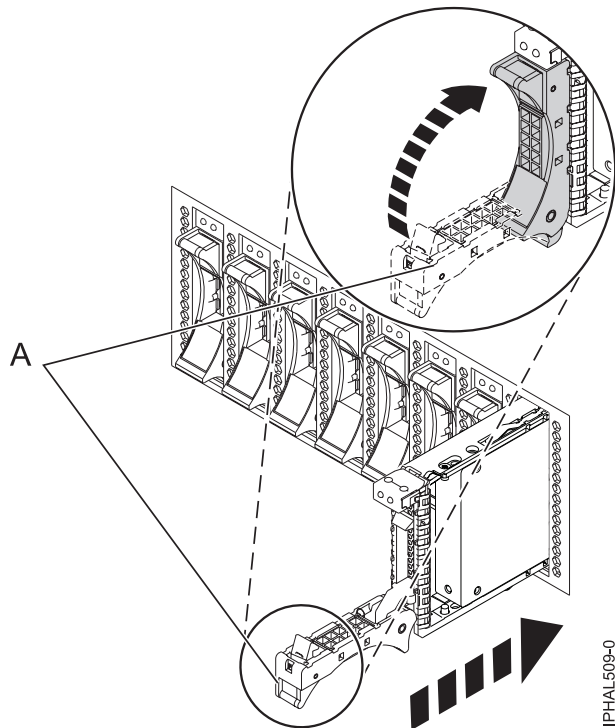

Figure 10. Installing the disk drive in the system
5. Slide the drive all the way into the system or expansion unit, and push the drive handle (A) in until it locks. See Figure 10 on page 19 showing installing a drive in the system.